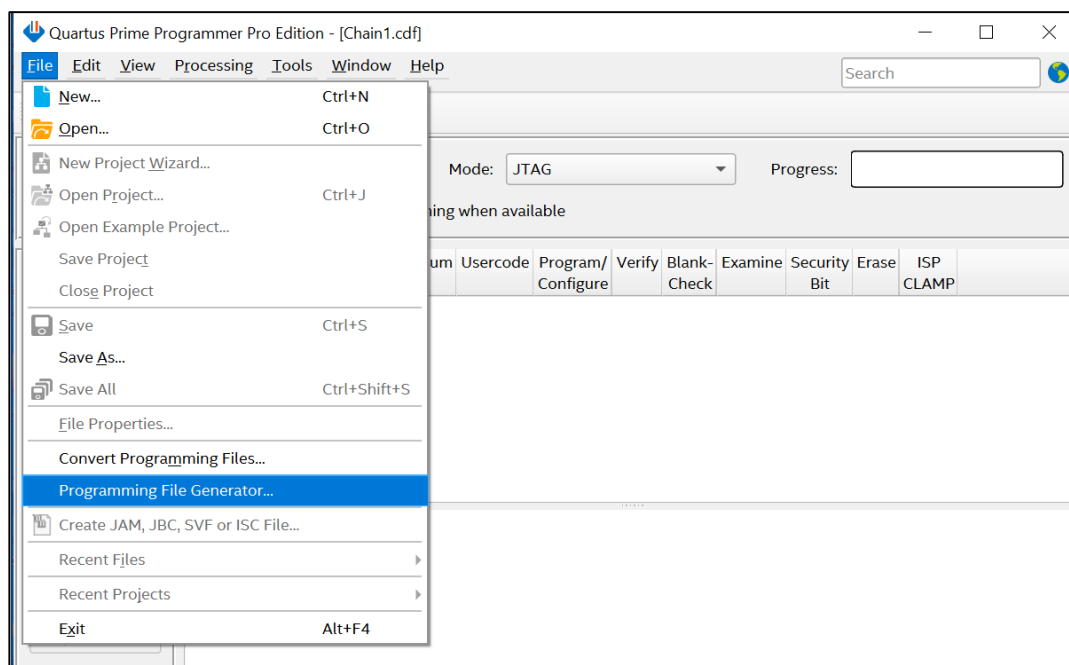

Figure 5-5 Open the Programming File Generator
1. Open the Quartus Prime Programmer and select **File → Programming File Generator...** (see Figure 5-5).